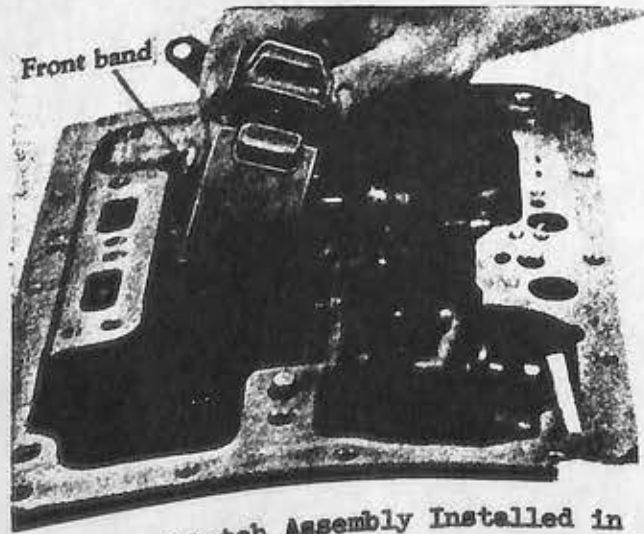

Fig. 57- Clutch Assembly Installed in Holder
2. Remove the front band from the transmission case (Fig. 57).